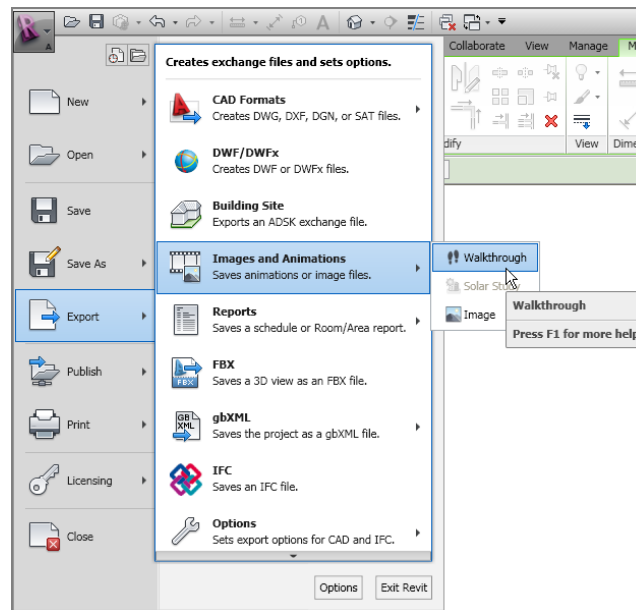

FIGURE 19.23: Choosing to export the walkthrough
Exporting an animation is a great, but slightly hidden, feature. The Export function isn't located on the Ribbon—you'll find it in the Application menu, as shown in Figure 19.23. By exporting a walkthrough, you're creating an animated vector image (AVI) that will translate the native Revit walkthrough. It's quick and almost completely painless.
2. Choose Export > Images And Animations > Walkthrough (see Figure 19.23).